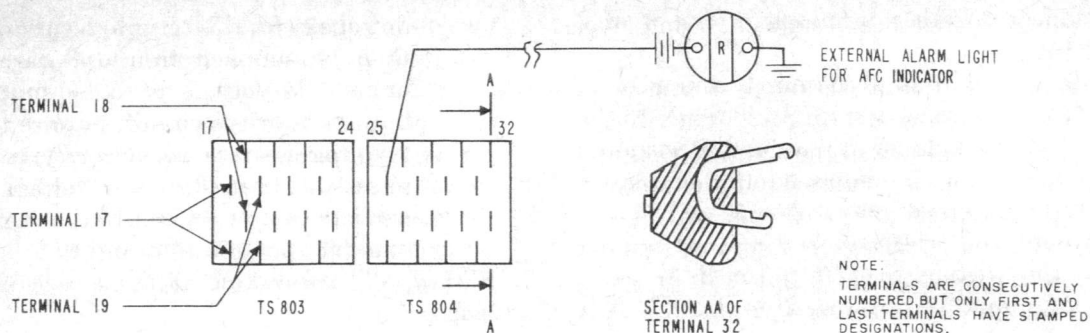

Figure 19. Typical terminal strip arrangement on relay panel.
e. Vf Connections. The vf group A lines are connected to terminals 17 and 18 on terminal strip TS803 (output connections, fig. 13) mounted on relay panel 8, located in the rear of the receiver. Figure 19 shows terminal strips TS803 and TS804. The vf group B lines are connected to terminals 21 and 22 on TS803. The external monitoring connections for vf group A are connected to terminals 19 and 20, if needed. The external monitor connections for vf group B are connected to terminals 23 and 24, if needed.
by the circuits that light the red CARRIER OFF SLOW lamp on the front panel of the receiver. External alarm signal currents should be less than $\frac{1}{4}$ ampere at 6- to 8 volts for each contact. Figure 19 shows a typical circuit connected to terminal 25. If terminals 25, 26, and 27 are connected together and then connected to a single external alarm signaling device, a single indication will be obtained if any one of the three signaling circuits have a condition other than *normal*. Figure 53 is a schematic diagram of the carrier off alarm circuit.